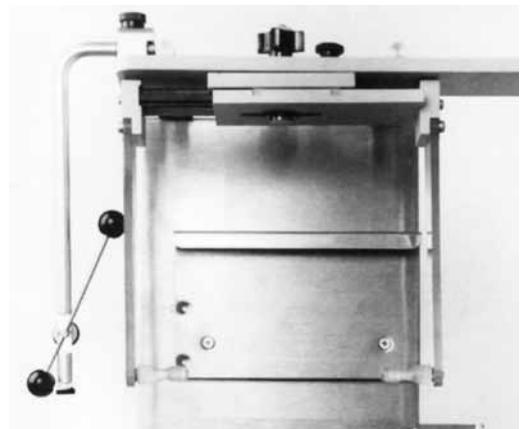

Figure 16
9. Position the cassette carriers on the opposite side of the main plate, **being sure the cassette stop faces the wall plate.** Secure the carriers in place with the four black knobs. (See Figure 16 for correct installation.)